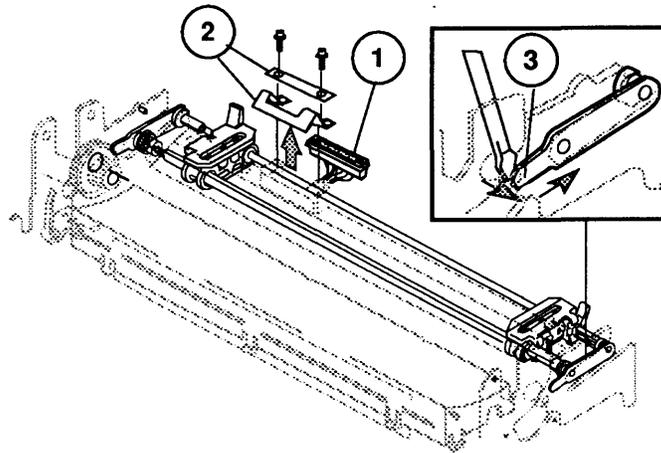

FIGURE 50
3. Remove the cut-sheet feeder connector (Figure 50, #1) and bracket (Figure 50, #2).
4. Using a small flat-blade screwdriver, pry back the black plastic tab inside the hole on the right-rear side of the frame (Figure 50, #3), and gently pull back on the tractor assembly about 1/4 of an inch.